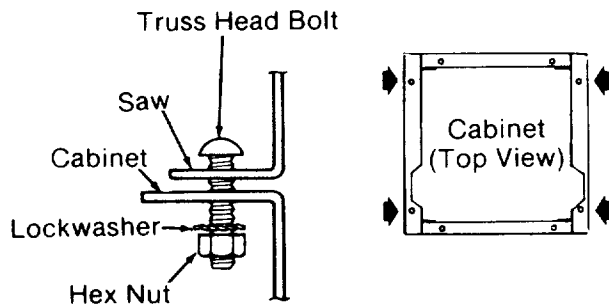

Fig. 31
2. Fasten the *saw* to the cabinet with four truss head bolts. Put a lockwasher and hex nut on each bolt and tighten using a 7/16 inch wrench or socket. (Figure 31)